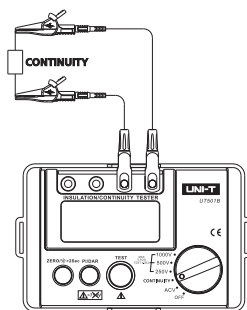

Figure 2
9. Low Resistance Measurement (See Figure 2)